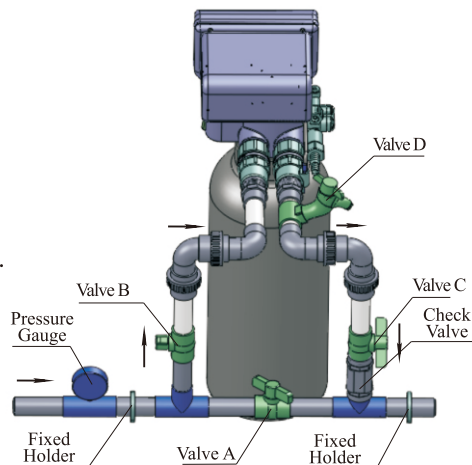

Figure 1-3
④ Pipeline connection
- a. As Figure 1-3 shows, install a pressure gauge in water inlet.